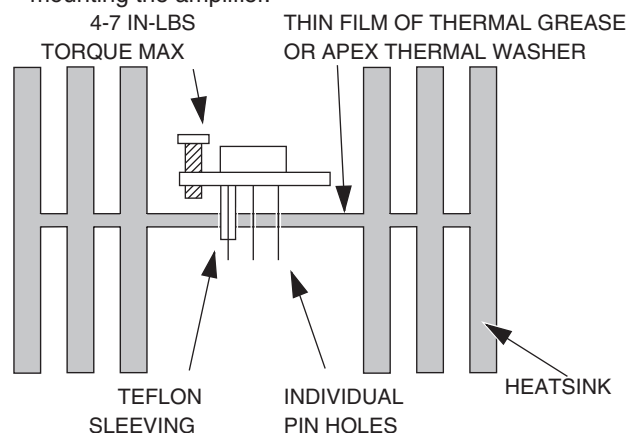

FIGURE 14. MOUNTING CONSIDERATIONS
- 3) *Don't overtorque the case. Recommended mounting torque for the TO-3 and SIP packages is 4-7 in-lbs (.45-.79 N-m) and for the MO-127 Power Dip™ packages (PD10 AND PD12) is 8-10 in-lbs (.90-1.13 N-m).* Refer to Figure 14. Apply a thin, uniform film of thermal grease or an Apex Precision Power thermal washer between the case and heatsink. Apply small increments of torque alternately between each screw when mounting the amplifier.